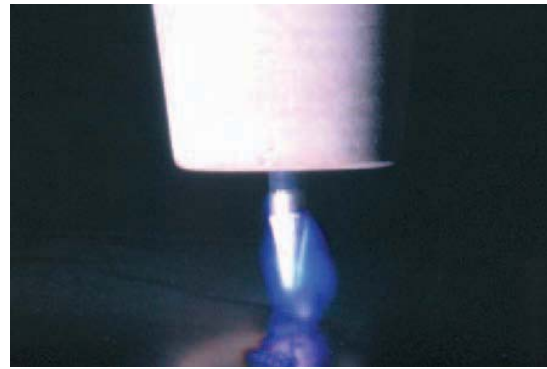

FIGURE 15-23 The high frequency first appears as a blue glow around the tungsten before the welding current starts its arc. Larry Jeffus
The high-frequency (HF) first current ionizes the shielding gas around the tungsten. This appears as a light blue glow, Figure 15-23. Once the shielding gas is ionized, it can conduct the lower-frequency welding current. The term *alternating current, high-frequency stabilized* (ACHF) is used to describe this GTA welding current.